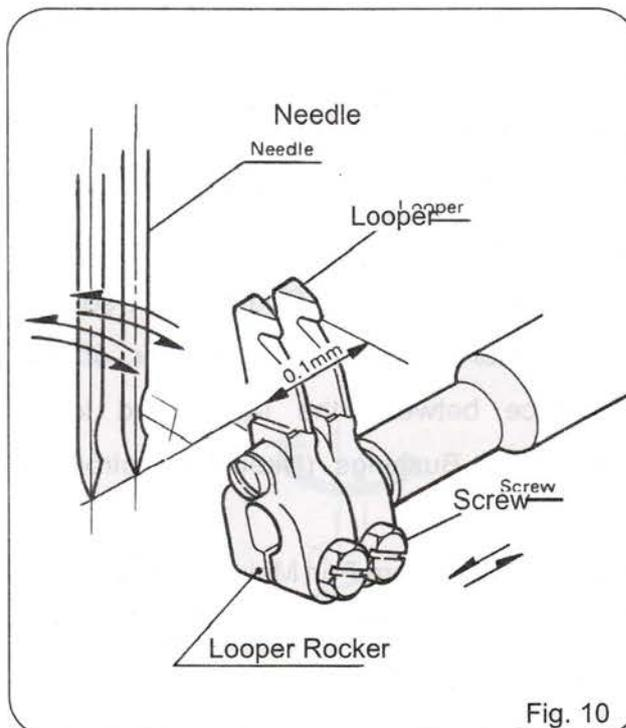

Fig. 10
2.Position of Needle and Loper (Fig.10)
Looper must pass the concave part of Needle with clearance of 0.1 mm as shown in Fig.10. Adjustment of the clearance can be done after loosening the screw of Loper Rocker.